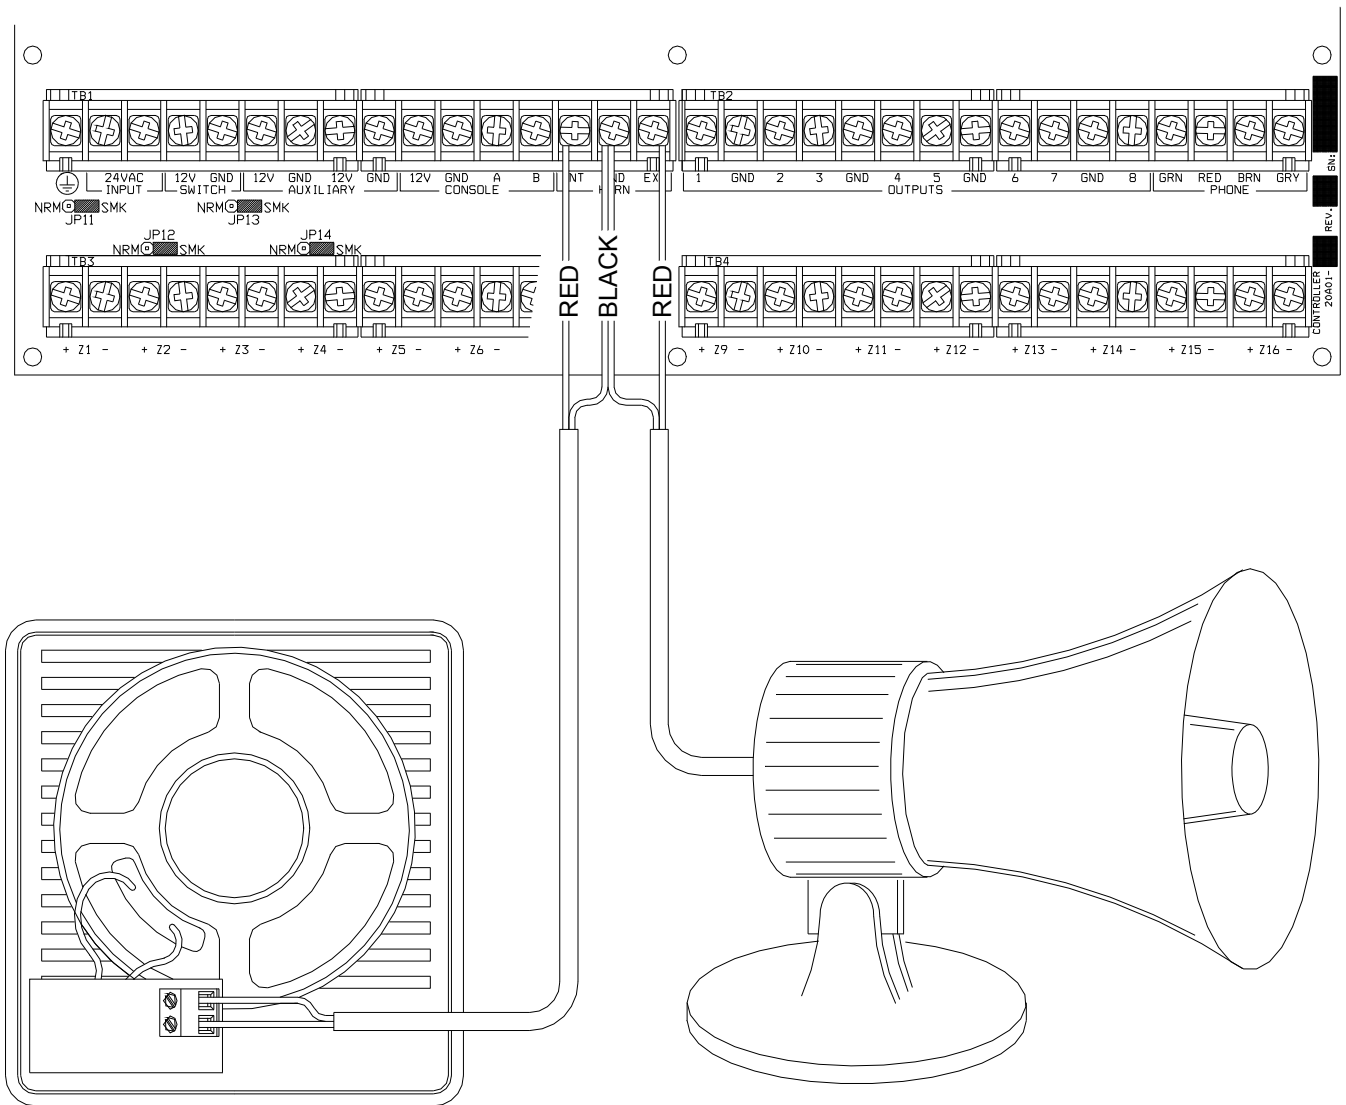
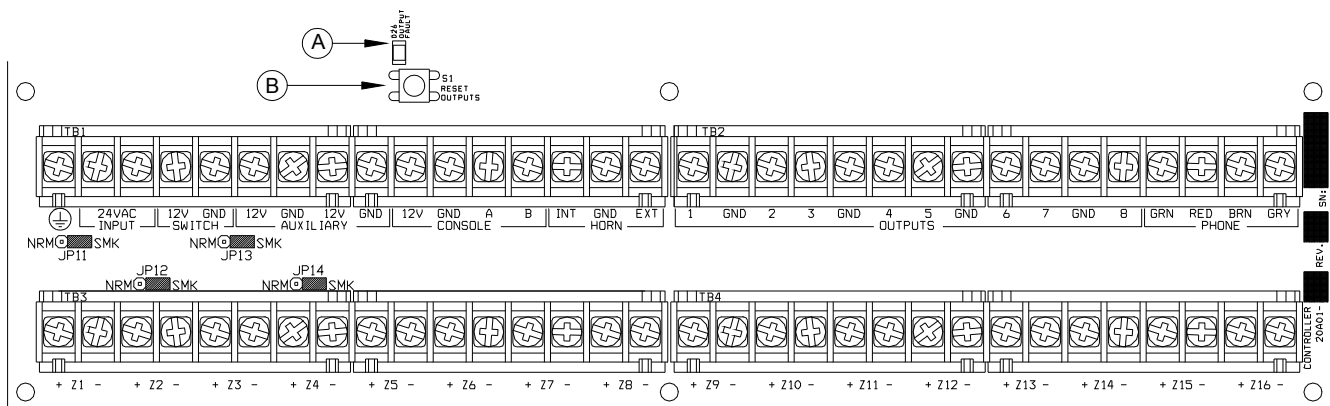

FIGURE 8 - SOUNDER CONNECTIONS
FIGURE 9 - RESETTING CONTROLLER OUTPUTS
4. Refer to **FIGURE 8 (SOUNDER CONNECTION)** for connections.
5. Refer to **FIGURE 8 (SOUNDER CONNECTION)** for connections.
Outputs 1-8 are protected from an overload condition. If an overload condition occurs on an output, it will shut off (the output will supply 0V). When this occurs, the "Output Fault" (D26) LED (marked "A" if Figure 8) will illuminate. To reset the output, remove the device causing the overload condition, then press the "Reset Outputs" (S1) Switch (marked "B" if Figure 9).